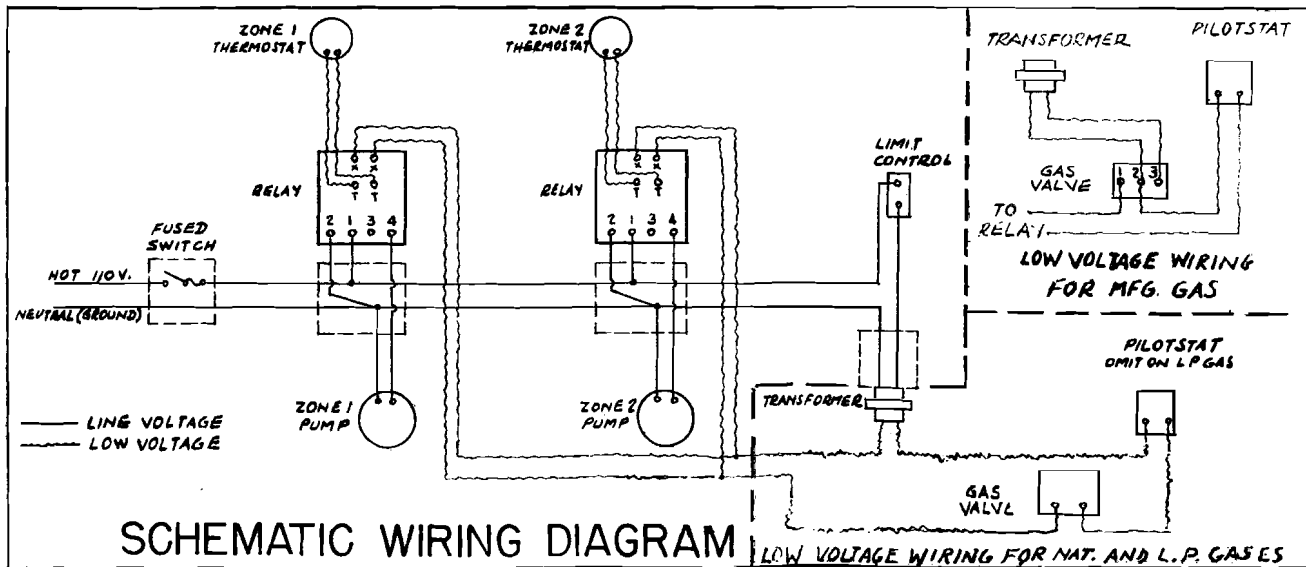
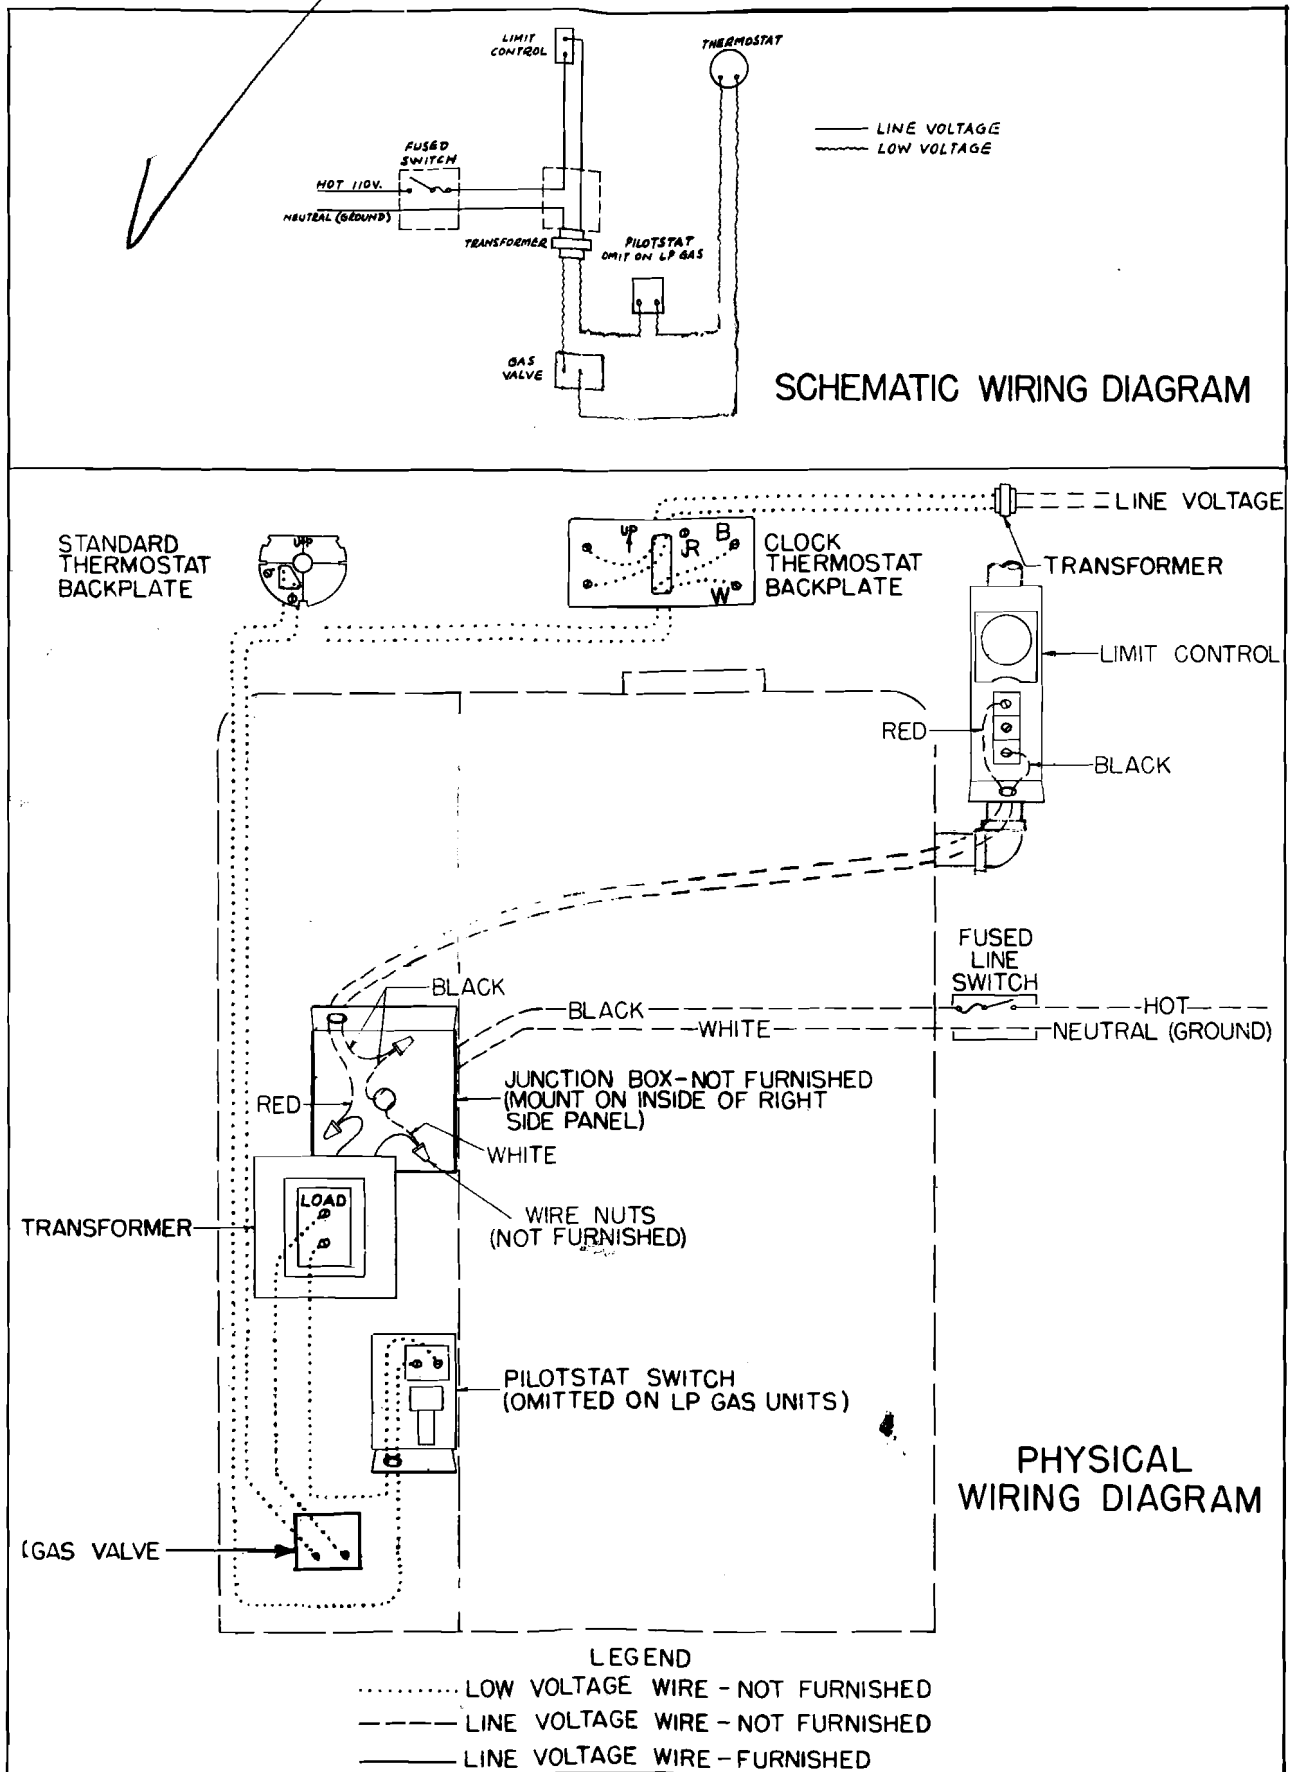

Figure 11. Schematic Wiring Diagram for Two-Zone Gas-Fired Forced Hot Water System.
Figure 18. Wiring Diagram for Natural and L.P. Gas-Fired Gravity Hot Water Systems
I. WIRING THE UNIT (see figures 11 through 21).
2. Electrical connections should be made directly from the unit (figures 18, 19, 20 and 21), or outside junction boxes (figures 11 thru 17) to the main fuse or circuit breaker panel
5. On forced hot water systems (figures 11, 12, 13, 14, 15, 16 and 17) where it is necessary to install relays and junction boxes outside of the unit, they should be installed on a wall or post in a convenient location as close as possible to the unit.
6. On all units (figures 11 thru 21) mount a junction box on inside of right side panel (facing unit). Drill or cut a 7/8" hole through panel to center knockout on back of junction box. Bring line voltage (figures 18, 19, 20 and 21), or wires from relay junction box (figures 11 thru 17) through this hole.